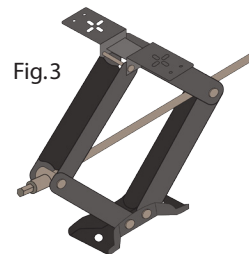

Fig.3
4. Remove crank handle when scissor jack reaches desired height (Fig.3).